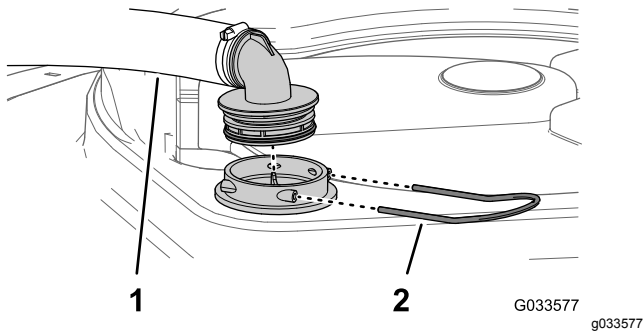

Figure 77
2. At the top of the sprayer tank, remove the retainer that secures the hose fitting attached to the large hose from the filter housing (Figure 77).
3. Remove the hose and hose fitting from the filter housing (Figure 77).